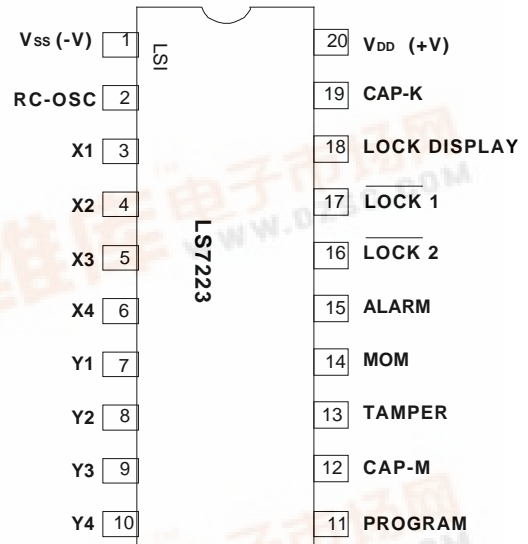

FIGURE 1
- LS7223 (DIP), LS7223-S (SOIC) - See Figure 1